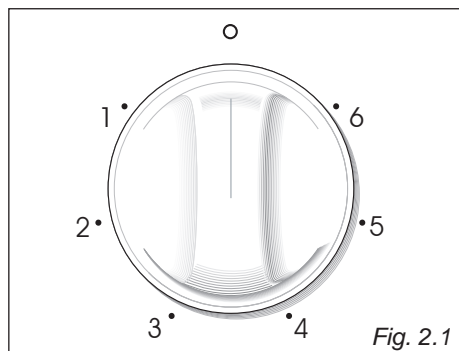

Fig. 2.1
- Turn the cooktop over and unhook the terminal board cover by inserting a screwdriver into the two hooks "A" (fig. 2.1).
To switch on the normal hotplate, turn the knob (fig. 2.1) onto the desired position; the numbers 1 to 6 indicate the working positions with the increase of temperature according to the number.
The control knob of the rapid hotplates is similar to that of a normal plate with 6 working positions (fig. 2.1).